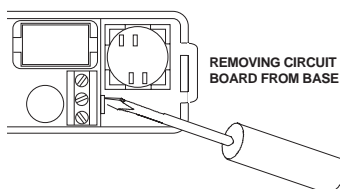

Figure 12. Circuit Board Removal
- Remove the circuit board from the base as shown in Figure 12.